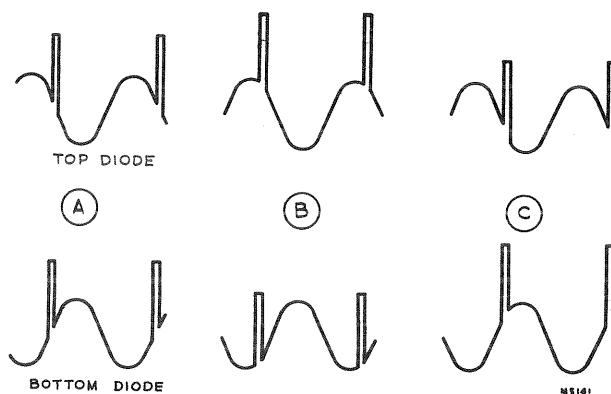

Figure 18—Sync Discriminator Waveforms
The sine wave oscillator voltages applied to the plates of V301 are equal in amplitude and opposite in phase. The synchronizing pulses from the third sync amplifier are fed through a small capacitor (C301) to attenuate the vertical sync and then applied to the center tap of T301. The horizontal sync pulses thus appear in phase and of equal amplitude on the diode plates as shown in Figure 18. When the pulse and sine wave from the oscillator are properly phased as in (A), both diodes will produce equal voltage across their load resistances, R301 and R303. However, these voltages are of opposing polarity and therefore the sum of the voltages across these two load resistors will be zero. If the phase of the sine wave changes with respect to the pulse as in (B), the top diode will produce more voltage across R301 than the bottom diode produces across R303. Thus, the voltage across the two will be positive. In (C) the reverse condition exists. It is obvious that the output of the discriminator can swing from positive through zero to negative dependent upon the phase relation of the synchronizing signal and the oscillator. This d-c output is applied to the grid of V303.